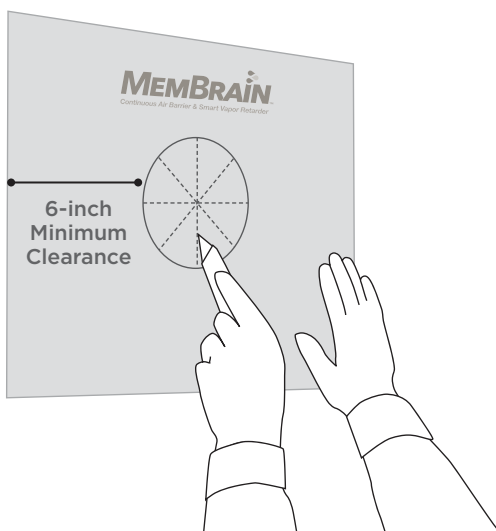

Figure 10: Patch preparation
Figures 10 and 11
- Intersect the circle with four diameter lines. (See Figure 10)